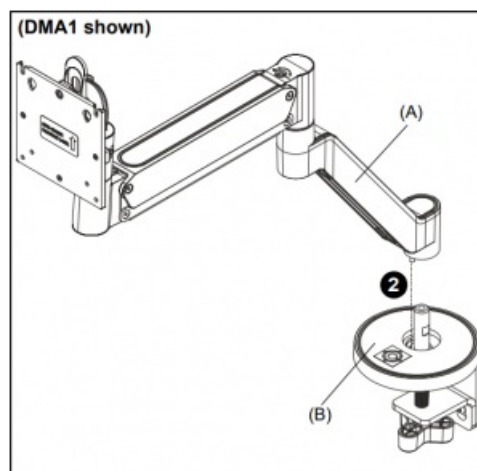

Figure 7
2. Place mounting arm(s) (A) onto base assembly (B) by slowly lowering arm onto base assembly pin. (See Figure 7)